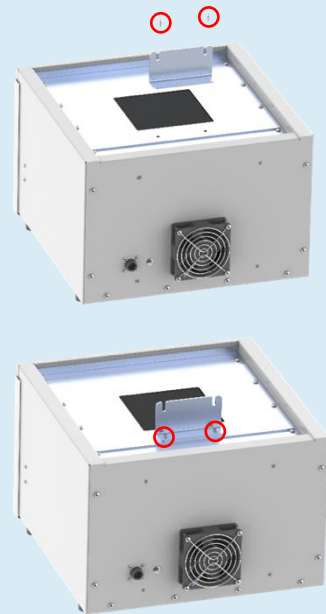

Figure 6.
3. Place the L-Bracket onto the Adapter Plate, flat side facing toward the front of the Light Shield and align the mounting holes. (Figure 6)